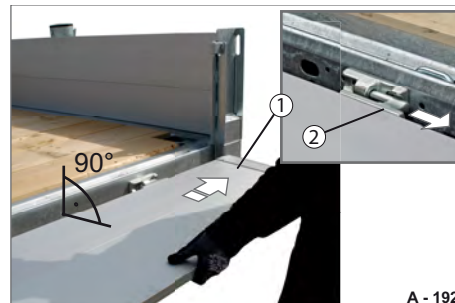

Fig. 133 Removing the platform gate
- ▶ Fold the platform gate (Fig. 133/1) at 90° down - flush with the loading platform.
- ▶ Carefully slide the platform gate to the side out of the platform gate hinges (Fig. 133/2).